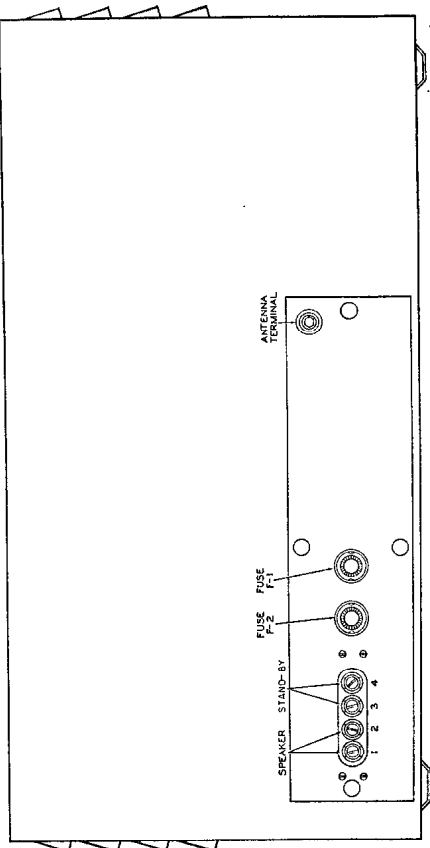
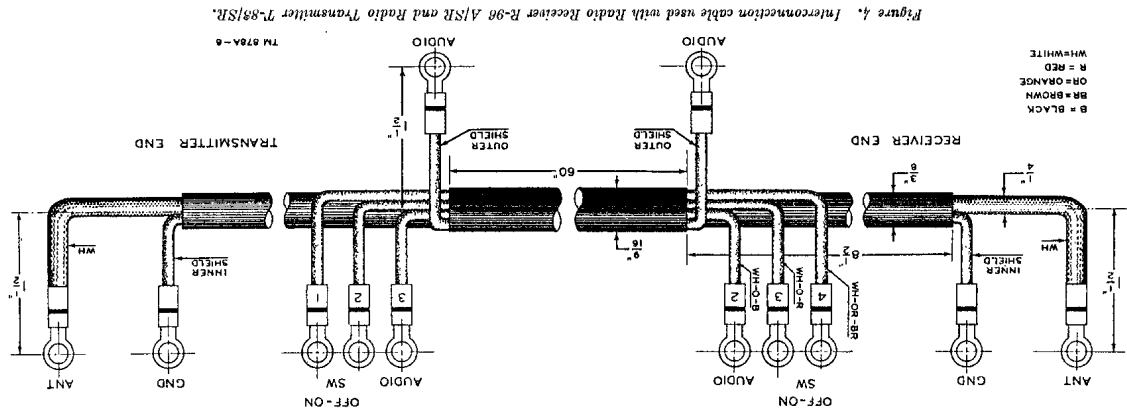

Figure 8. Radio Receiver R-96A/SR, rear view.
Figure 4. Interconnection cable used with Radio Receiver R-96A/SR and Radio Transmitter T-83/SR.
No additional equipment is required for the operation of this receiver as a single unit, assuming proper power supply leads and antenna connections are available. If the receiver is used in conjunction with Radio Transmitter T-83/SR, a special connecting cable must be used. This cable (fig. 4) is supplied with the transmitter.
c. When the receiver is Radio Transmitter T-8 cable between the two units 4 and 8, must be used. The cable is supplied with the transmitter as one of the spare parts between the receiver and transmitter and ground when the transmitter is in operation. It also allows sidetone operation provides connections to speaker. Figure 8 is a schematic diagram that illustrates the interconnections between the two units. The cable connections are indicated in figures 4 and 5. The cable connections are secured to the terminal board and the antenna board.
- a.* A single antenna is used for both the receiver and transmitter. The antenna is connected to the antenna terminal on top of the transmitter. The interconnecting cable (fig. 4) is used between the receiver and transmitter. This cable is shipped with the transmitter. The cable has leads inside of it to bring the received audio signal to the handset receiver unit, to connect the transmitter antenna (switched by the switching relay inside of the transmitter) to the receiver, and to disable receiver reception and operate the antenna relay from the front panel of the receiver (by means of the REC.-SEND switch).
- a.* It is an essential part of the receiver and transmitter. The antenna is connected to the antenna terminal on top of the transmitter. The interconnecting cable (fig. 4) is used between the receiver and transmitter. This cable is shipped with the transmitter. The cable has leads inside of it to bring the received audio signal to the handset receiver unit, to connect the transmitter antenna (switched by the switching relay inside of the transmitter) to the receiver, and to disable receiver reception and operate the antenna relay from the front panel of the receiver (by means of the REC.-SEND switch).
- c.* In order to receive a signal, the antenna must be connected to the receiver. The antenna is connected to the antenna terminal on top of the transmitter. The interconnecting cable (fig. 4) is used between the receiver and transmitter. This cable is shipped with the transmitter. The cable has leads inside of it to bring the received audio signal to the handset receiver unit, to connect the transmitter antenna (switched by the switching relay inside of the transmitter) to the receiver, and to disable receiver reception and operate the antenna relay from the front panel of the receiver (by means of the REC.-SEND switch).